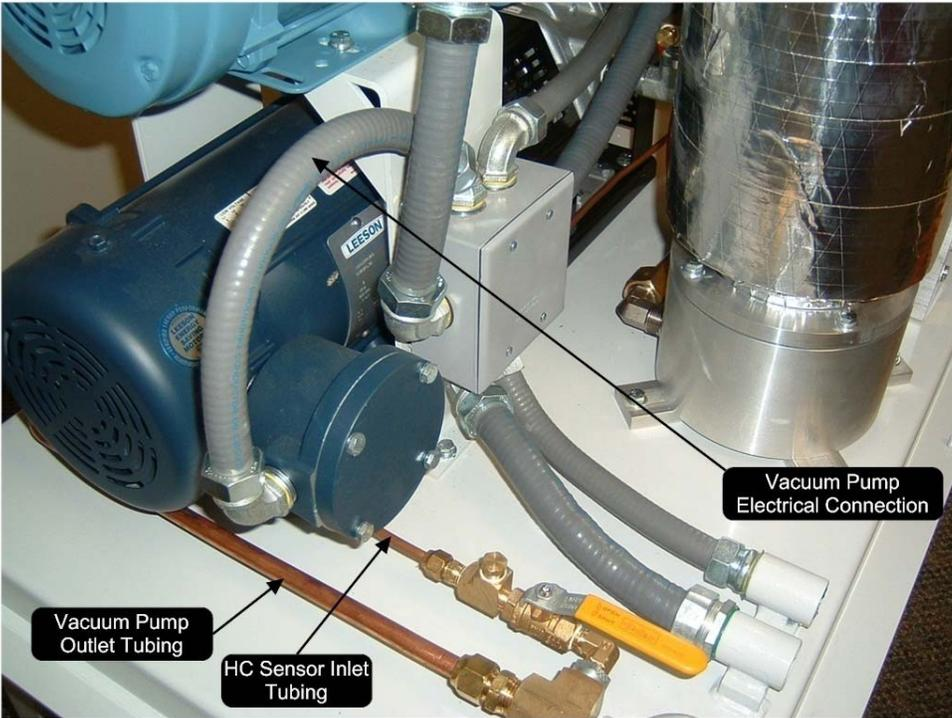
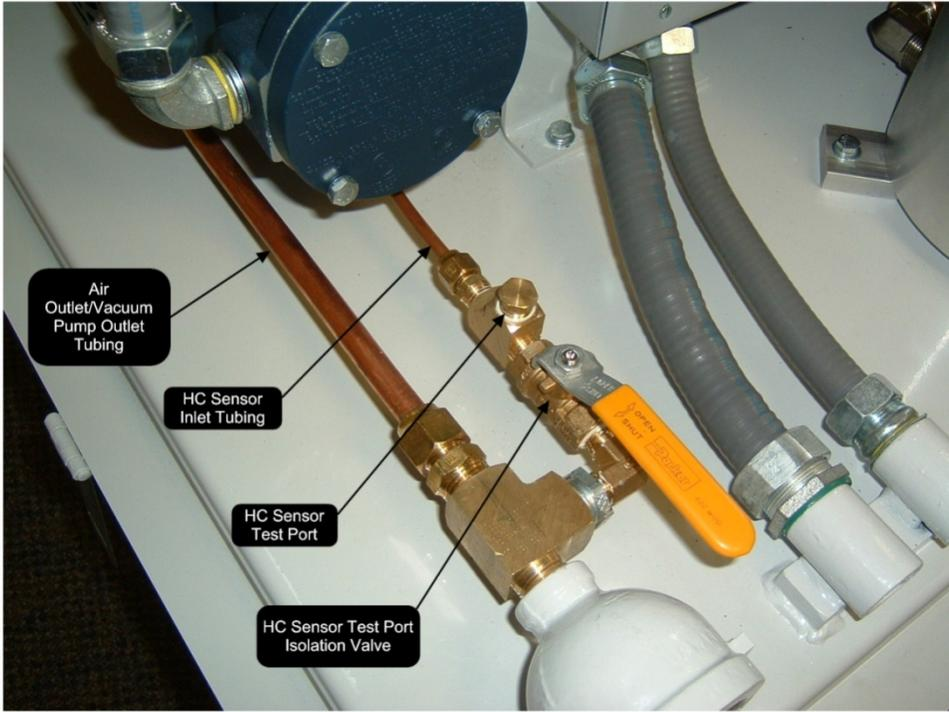

Figure 29: Vacuum pump electrical connection / vacuum pump outlet tubing / HC sensor inlet tubing
Figure 30: Air outlet / vacuum pump outlet / HC sensor inlet tubing
- See Figure 29 and Figure 30.
9. Remove (4)  $\frac{1}{4}$ " x 1- $\frac{1}{2}$ " mounting bolts from the vacuum pump motor assembly base plate.
- Keep the (4) bolts for reuse or replace with new.
- Completely remove the vacuum pump ½" and ¼" inlet 45° flare tubing and all pipe fittings connected to the vacuum pump. See Figure 29.